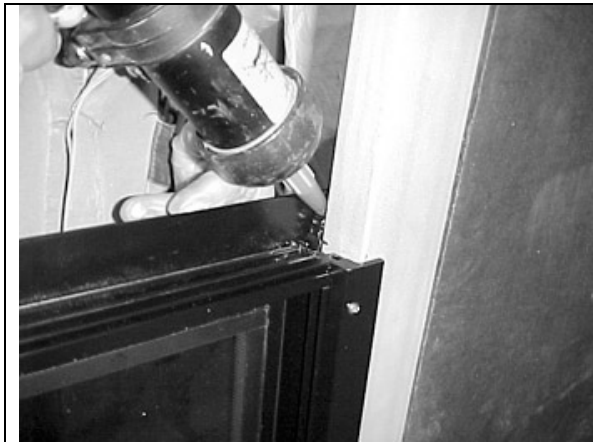

FIGURE 69: AWNING WINDOW – SEAL THE UPPER CORNERS
- Using Sika 252 or 255, seal the upper corner of the awning window, both sides (Figure 69).